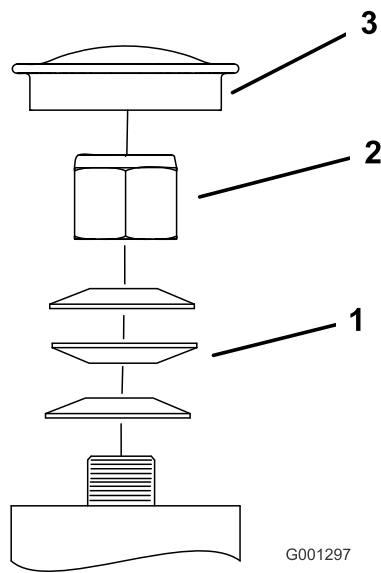

Figure 59
3. Remove the dust cap from caster and tighten locknut (Figure 59).
4. Tighten the locknut until the spring washers are flat and then back off a 1/4 turn to properly set the pre-load on the bearings (Figure 59).
Important: Make sure that the spring washers are installed correctly as shown in Figure 59.
5. Install the dust cap (Figure 59).